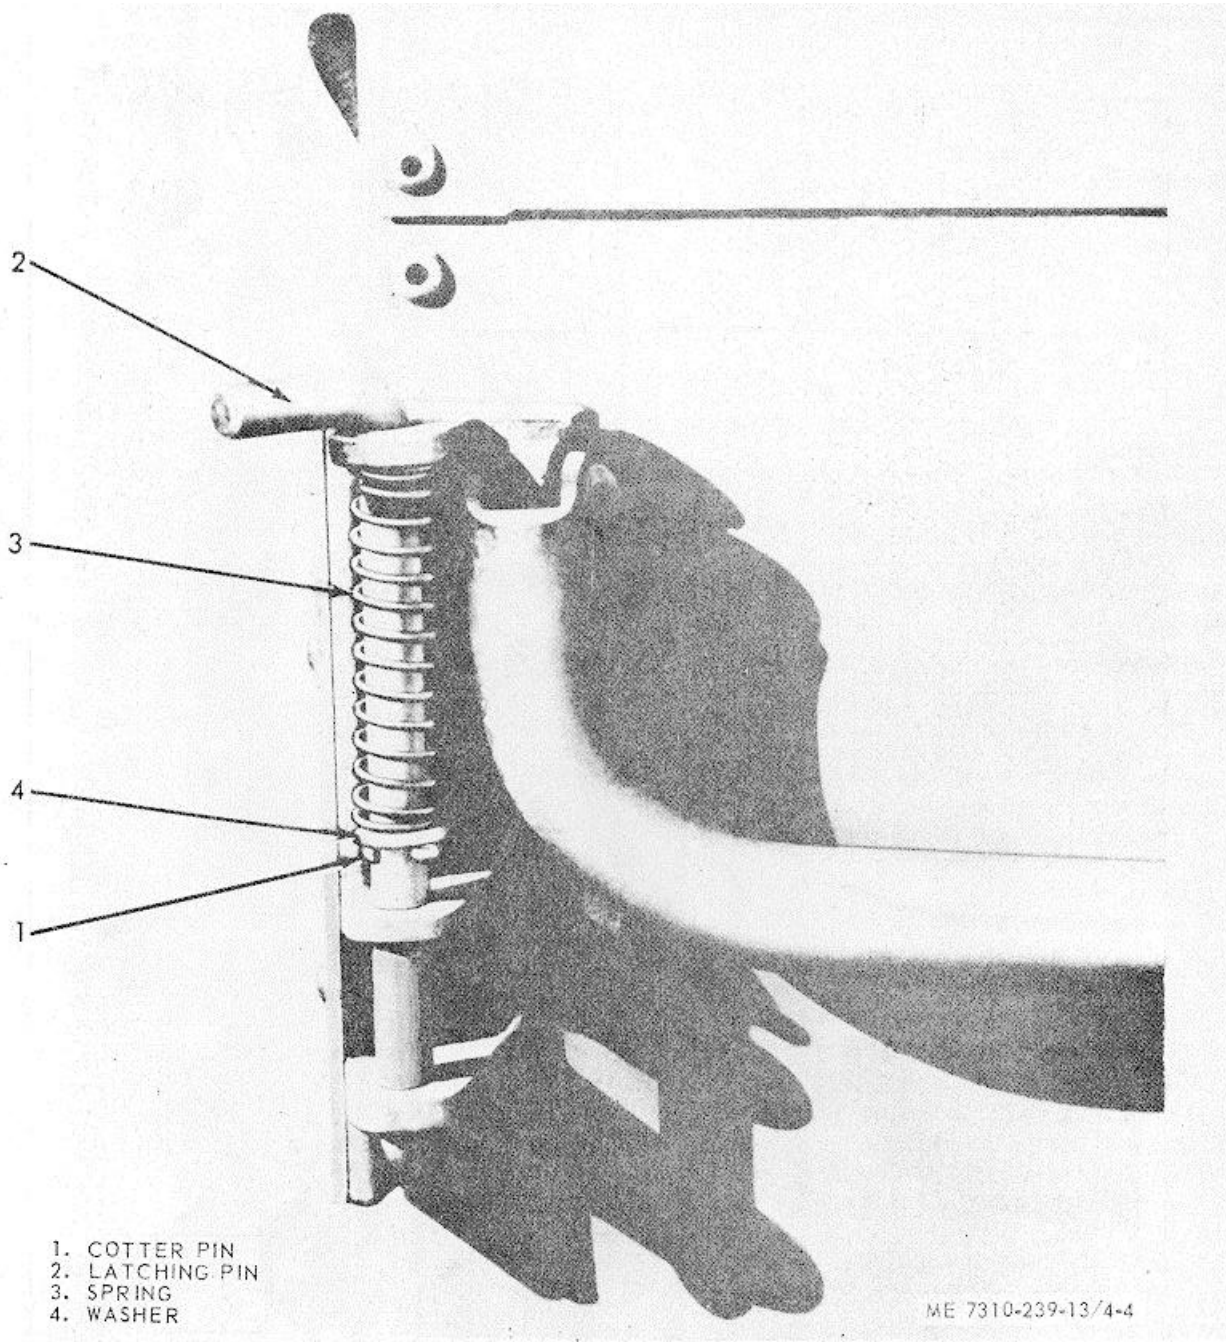

Figure 4-4. Latching pin, removal and installation.
(1) Remove cotter pin (1, fig. 4-4) from latching pin (2).
(2) Grasp pin spring (3) and washer (4) with free hand and pull latching pin (2) up and out of bracket.